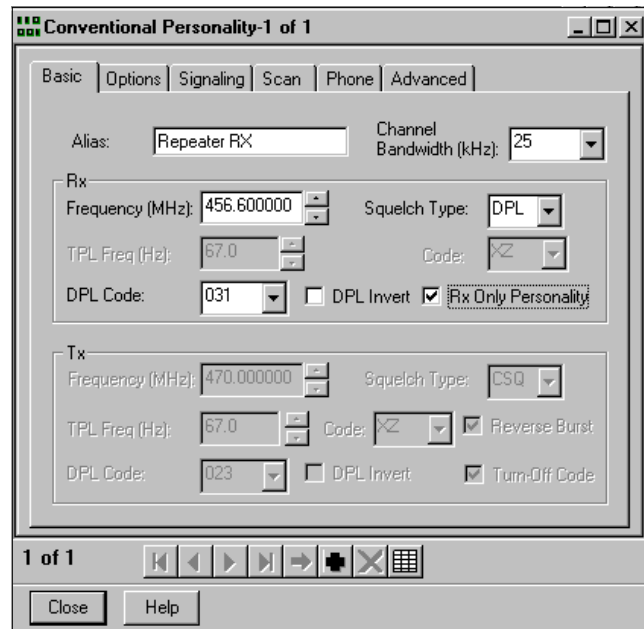

Figure 11-4. Conventional Personality, Basic, Receive Radio
18. Check the “Rx Only Personality” box. Your screen should appear similar to Figure 11-4.